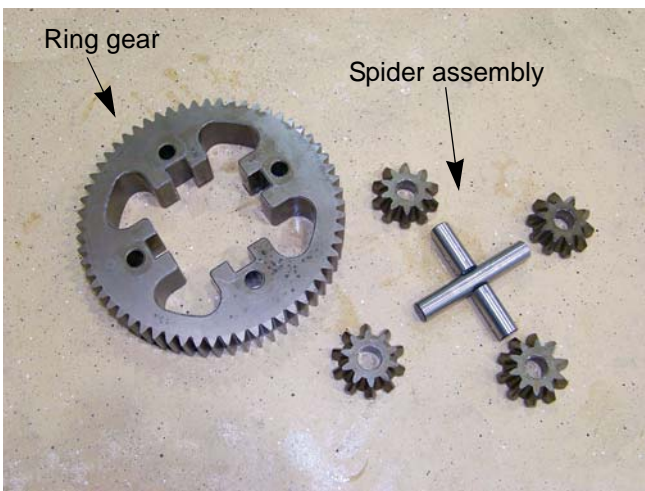

Figure 5.54
- 38. Separate the spider gear assembly and inspect for damage or wear. See Figure 5.54.